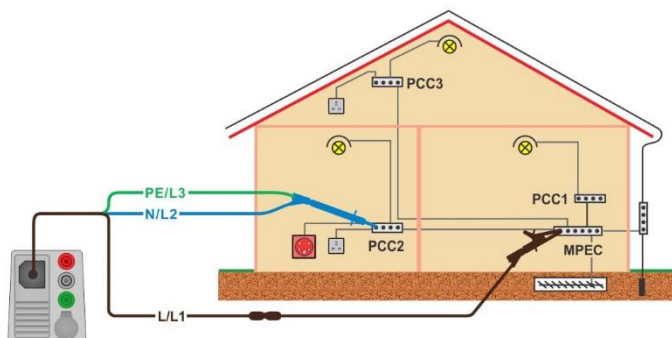
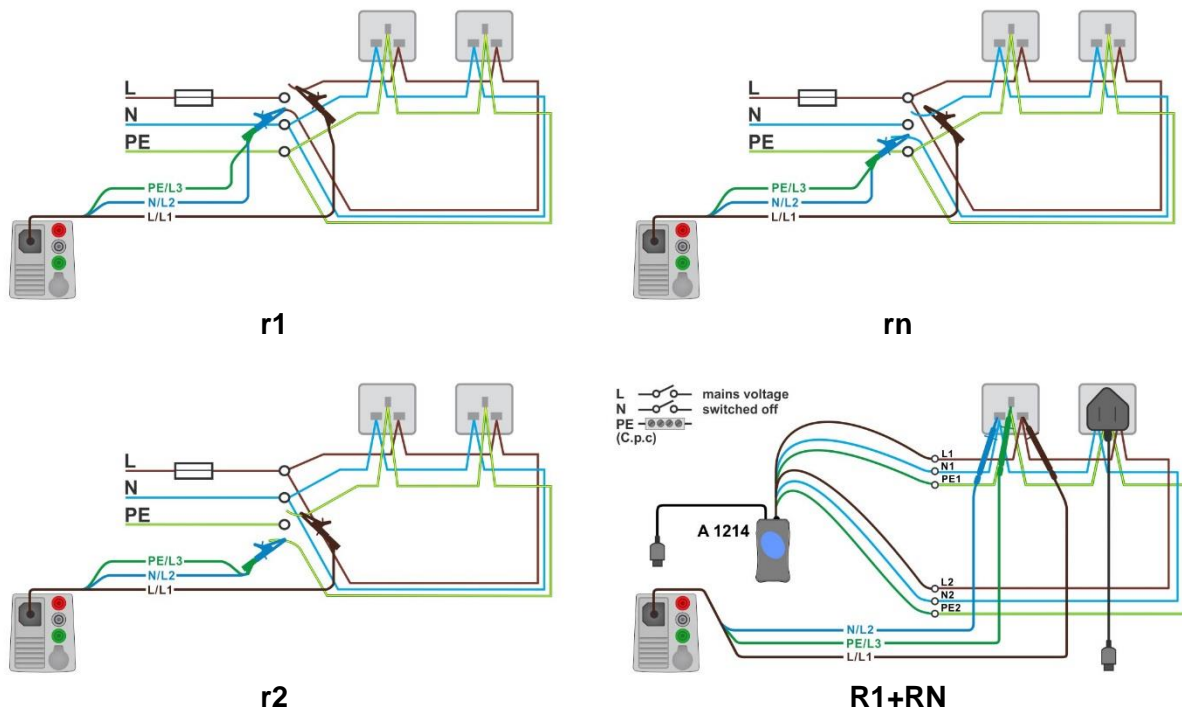
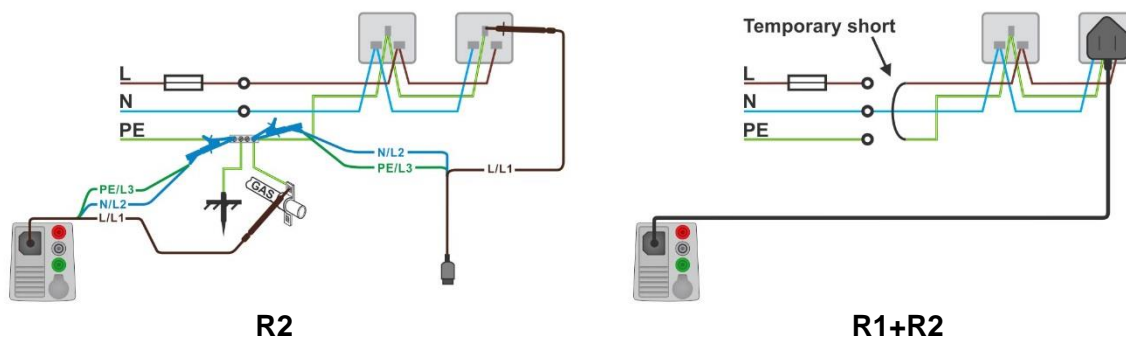

Figure 7.23: Connection of 3-wire test lead plus optional Extension lead (Output LPE or LN)
Figure 7.24: Testing r1, rN, r2 and R1+RN sections of the wiring in ring circuits
Figure 7.25: Testing R2 and R1+R2 sections of the wiring in final circuits
- › Connect test leads, see **Figure 7.23**, **Figure 7.24** and **Figure 7.25**.